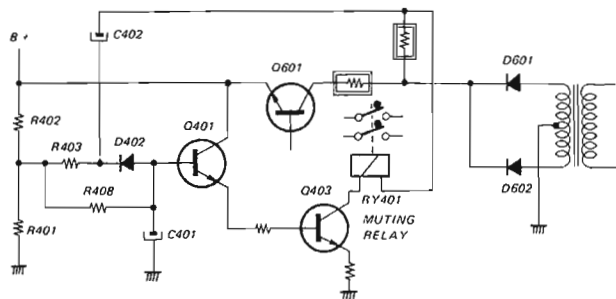

Fig. 1-11
4) Muting at POWER switch ON/OFF (see Fig. 1-11)